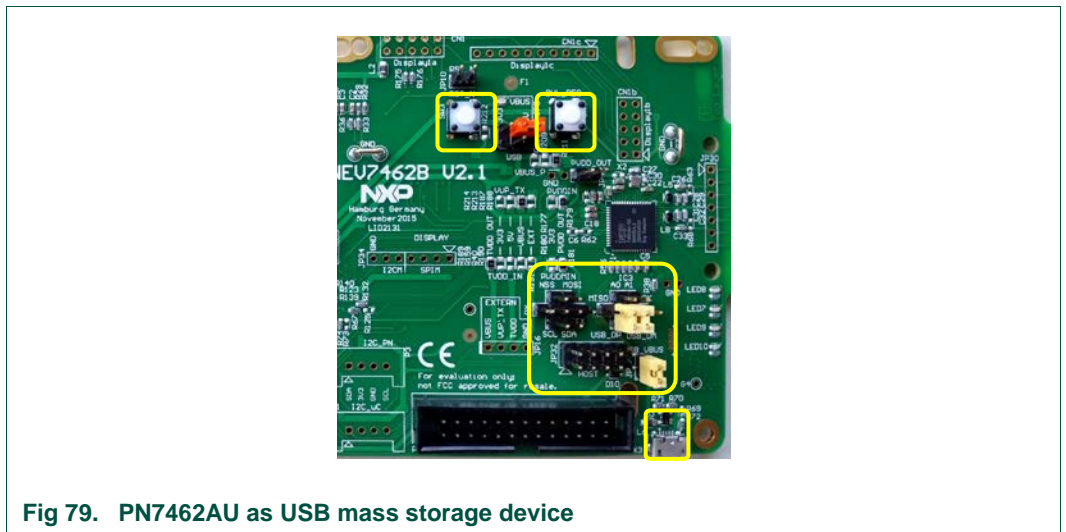

Fig 79. PN7462AU as USB mass storage device
1. Ensure that “HIF selection” is USB, see Fig 79 (to be skipped with PNEV7462C board)